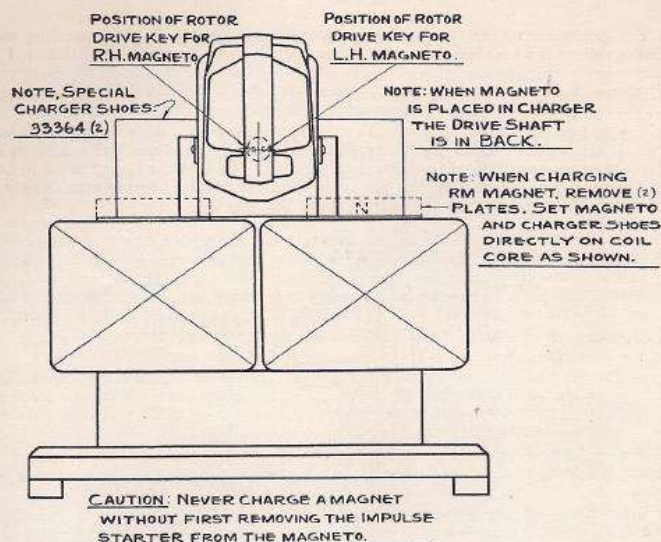

Figure 1.
4. Magnetize—The magnet of the RM should be charged with a Type G Magnet Charger using special shoes No. 33364 and with the magnet fully assembled in the housing. Never charge a magnet without first removing the impulse starter from the magneto. Place the magneto in the charger as shown in the illustration Fig. 1, being careful that all details are followed exactly. Otherwise an inadequate charge, or one of wrong polarity may be obtained. Also the location and size of the charger shoes on the side of the magneto are important.